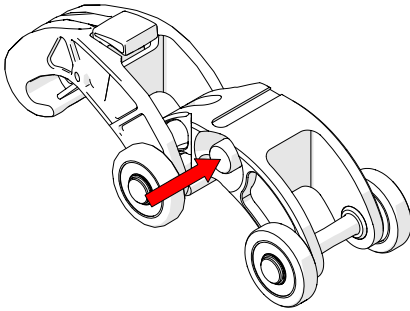

Fig. 50 - Press red button
1. Press the button on the side of the Dovetail QuickLink (Fig. 50).